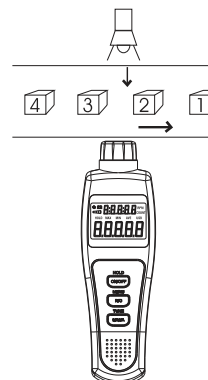

Figure 5
Receiving Light Source Outside (See Figure 5)
2. Locate the Meter, objects under counts and light source as shown in Figure 5